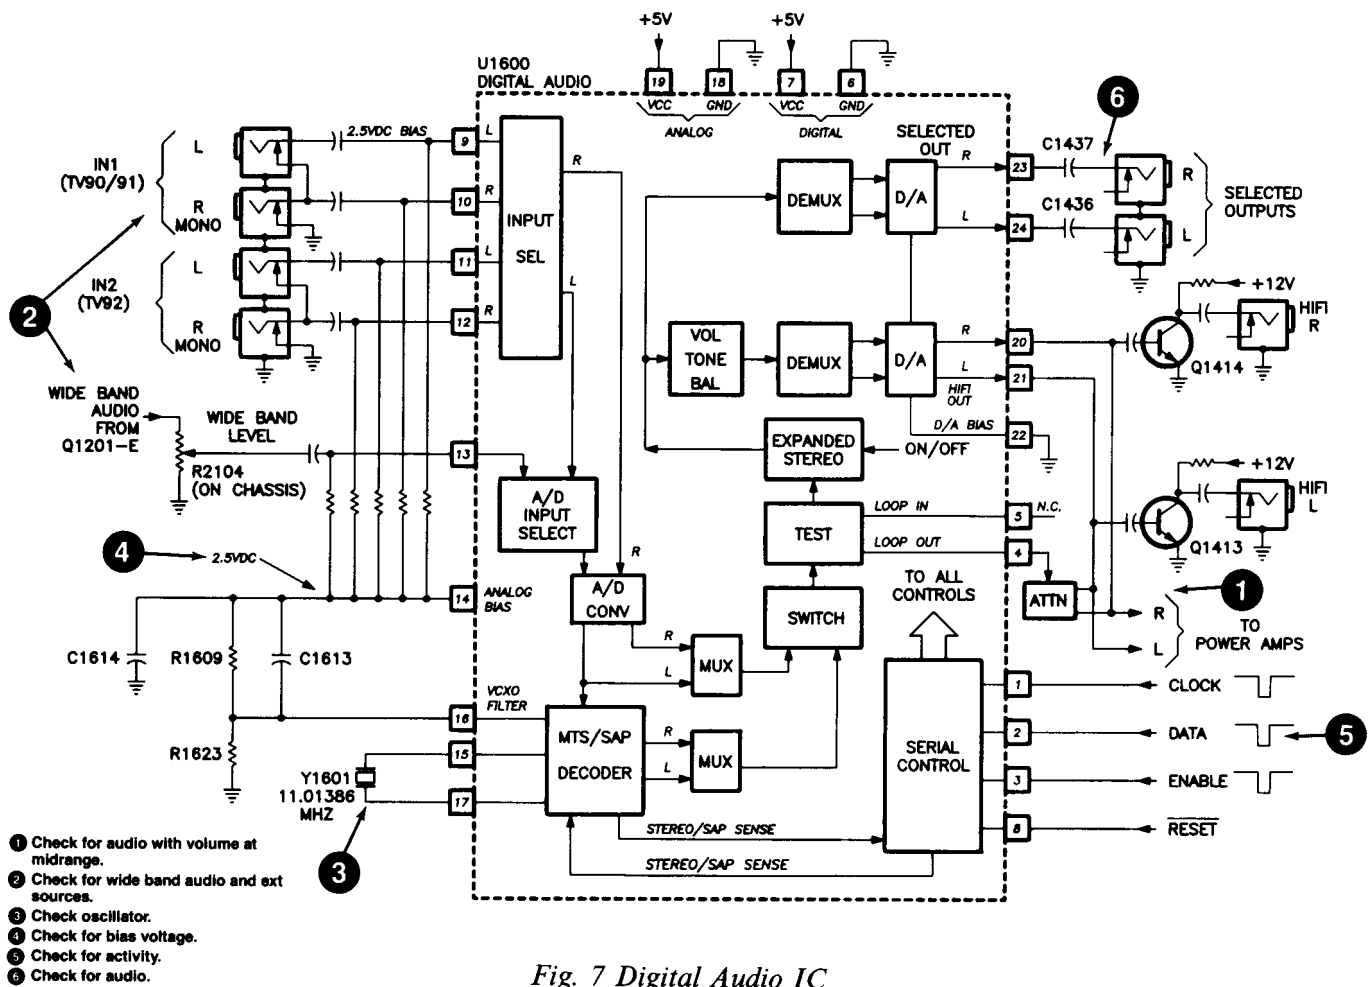

Fig. 7 Digital Audio IC
3. What key signals should be checked at the audio IC. (Fig. 7)